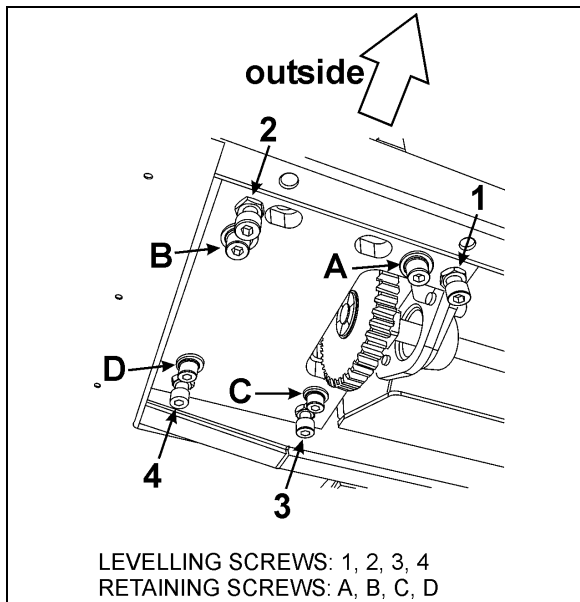

FIGURE 26: SLIDE-OUT LEVELING
4. From the mechanism access panel, remove the retaining screws A, B, C & D (see Figure 26).
Leveling of the slide-out is done by changing the linear bearing support plate height using the leveling screws 1, 2, 3, 4 (Figure 26). When proper level is attained, the retaining screws A, B, C & D maintain the support plate seated on the leveling screws. Also, the retaining screws prevent the slide-out from tipping inside the vehicle when it is retracted.
The slide-out is slightly tilted. When retracting, the upper "in limit" stoppers touch first the vehicle structure, followed by the lower "in limit" stoppers. Tilt adjustment is done by changing the linear bearing support plate inclination using the leveling screws 1 & 2 as pivot and 3 to adjust the angle (Figure 26).
2. From under the support plate, remove the acetal plastic block mounting screws (see the oblong holes on Figure 26 and arrows, Figure 29).